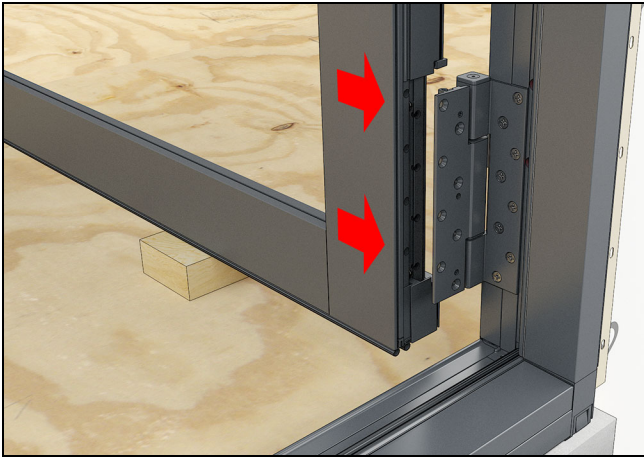

Figure 69
1. Position the operator panel near the frame, align the panel with the hinges on the frame. The panel should be set more than 90 degrees to the frame. See Figure 69.